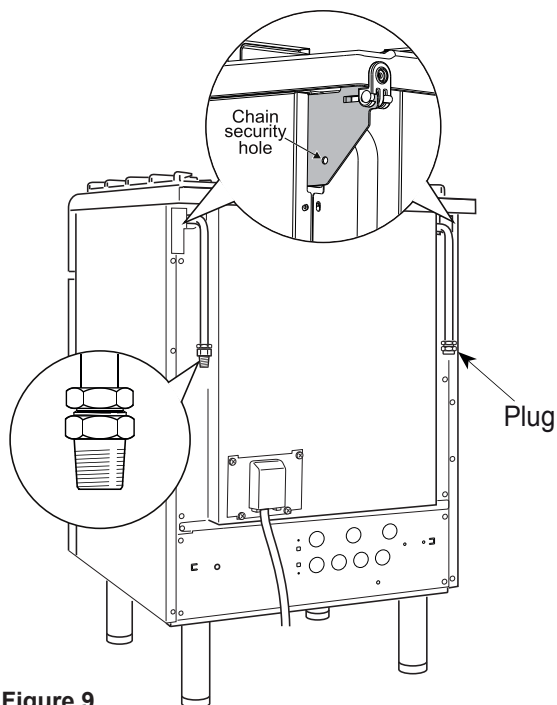

Figure 9
- The connection must be made at the rear of appliance (left or right); the pipe does not cross the cooker (fig. 9).